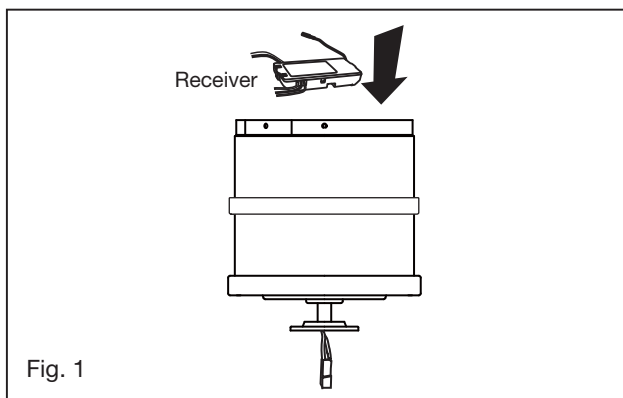

Fig. 1
Carefully lift fan motor assembly (without the blades) into position by hanging the motor assembly onto the hook from the ceiling adapter plate allowing it to hang freely. (Fig. 1)
1. Insert the receiver into the ceiling mounting bracket with the flat side of the receiver facing the ceiling. (Fig. 1) For best performance, make sure the Black Antenna and WIFI Antenna, on the end of the receiver, remains extended and not tangled with any of the electrical wires.
- 1 Move fan into position over the mounting bracket and secure with the 4 screws provided. (Fig. 1)
- 3 Place the key holes on the LED assembly over the 2 screws previously loosened, turn the light plate until it locks in place at the narrow section of the key holes. Secure by tightening the 2 screws previously loosened and the one previously removed. (Fig. 1)
- 1 Select a desired location. Use the wall plate to mark the location of the mounting holes. Plastic wall anchors or mounting screws are needed for this application. (Fig. 1)
Remove the panel from the transmitter and then install one 2032 battery (included). You need to use a coin to open or close the battery cover. To prevent damage to transmitter, remove the battery if not use for long periods of time (Fig. 1)